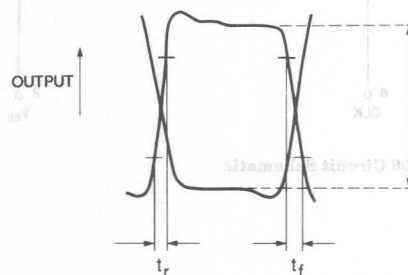

Figure 7. Output Waveform Definitions
2.  $t_r$  and  $t_f$  are defined in Figure 7.
the center of the output waveform (Figure 7). Typical interface circuit diagrams for the HDMP-2006 are given in Figure 9 and 10 which show both AC and DC input and output options.